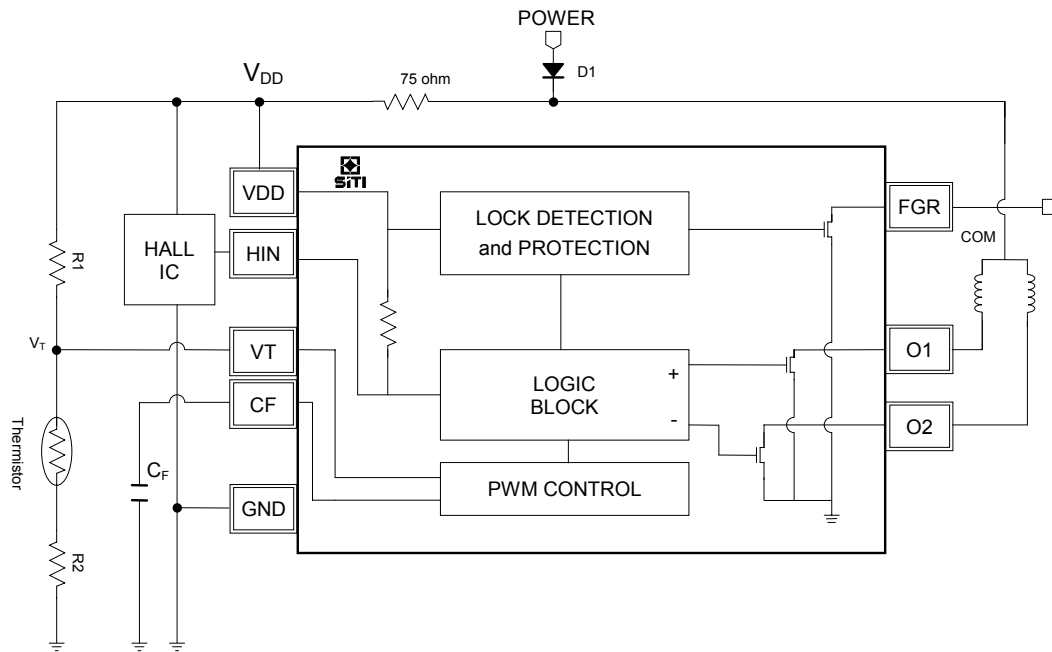
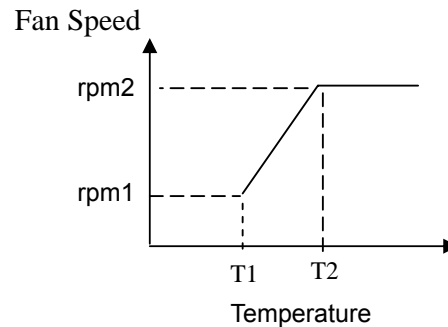

Figure 1. Fan speed control by the external temperature sensor.
Figure 2. Desired Temperature-Speed Curve
### 1. Temperature-sensing fan speed control —Refer to Figure 1.
- (1) If the linear temperature control is desired, the VT terminal is connected to a thermistor-resistor divider, as shown in Fig. 1. In this way, the fan speed can vary linearly with respect to the temperature variation; the higher temperature results in the faster speed.
- (2) Figure 2 illustrates the desired temperature-speed curve. Assume that the resistance of the thermistor is  $R_{T1}$  when the temperature is at  $T1$ , and  $R_{T2}$  at  $T2$ . Also assume that the voltage  $V1$  applied to the VT pin will result in the fan speed rpm1, and  $V2$  applied to the VT pin yielding rpm2. Note that the relation between the VT voltage and the fan speed depends on the size and the coil impedance of the fan. To obtain the desired temperature-speed curve, the resistance values of  $R1$  and  $R2$  in Fig. 1 can be roughly selected by the following equations.
where  $V_{DD}$  denotes the voltage at the VDD pin, see Fig. 1. Normally,  $V_{DD}$  is around 10.8 Volt, which may slightly vary with the variation of the driving current.